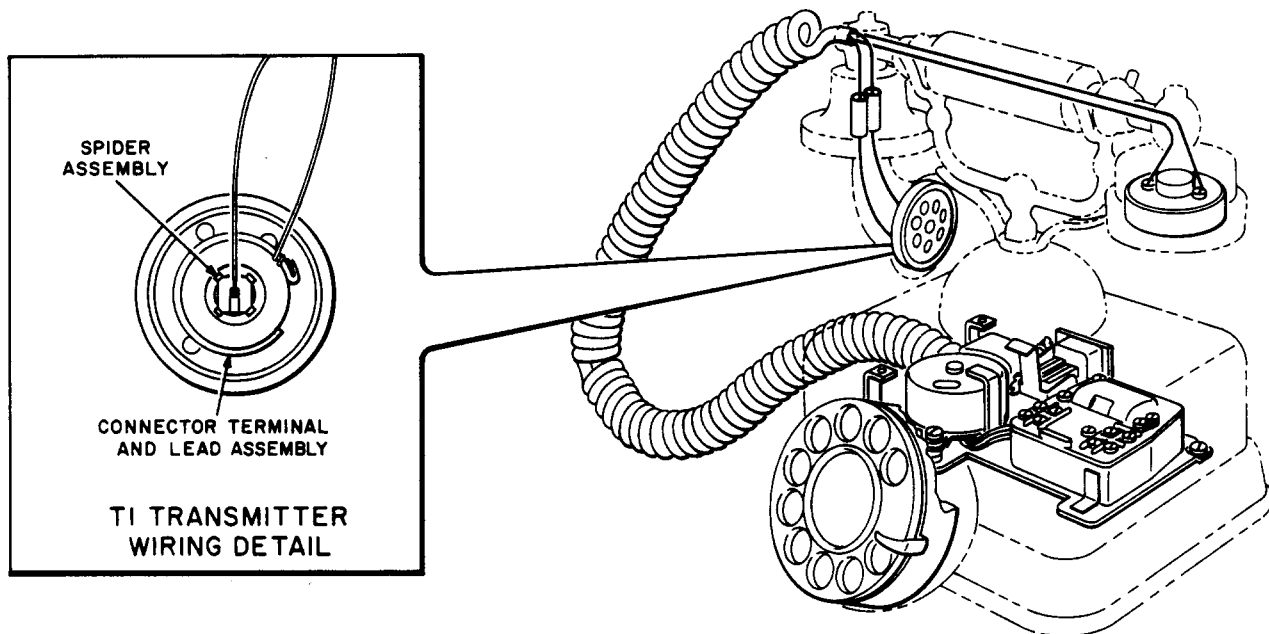

Fig. 3—Typical Installation of F-56659 or F-56660 Telephone Set in Antique Housing
- (5) Position ringed portion of connector terminal and lead assembly on transmitter unit (Fig. 3).
- (6) Snap spider and lead assembly onto center button of transmitter unit (Fig. 3).
- (7) Obtain two pieces of P-483192 sleeving and two P-121932 connector assemblies from group of components.
- (8) Cut sleeving sufficiently in length to completely insulate the connectors and place sleeving on each lead extending from transmitter unit.
- (9) Pull the **red** and **black** leads of handset cord through transmitter opening of handset, using the connectors, connect the **red** and **black** transmitter leads, respectively.
- (10) Place transmitter unit in handset cavity and replace transmitter cap.
- (11) Fig. 3 is a typical installation of a group of components installed in a customer-owned antique telephone set housing.